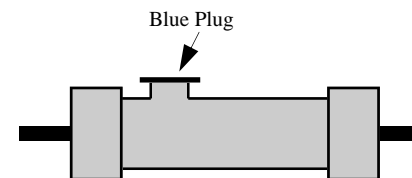

Figure 5
3. Put the blue plug back into the pour spout. (see figure 5)